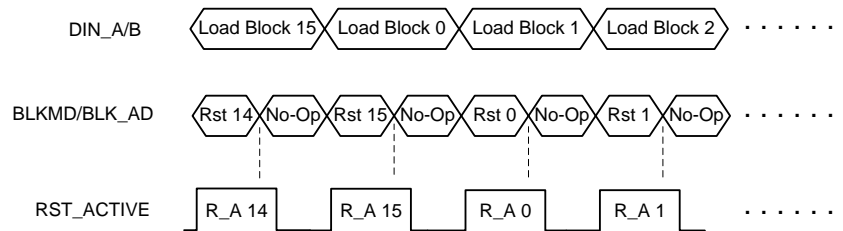

Figure 15. Single Block Phased Mode with Longer Block Load Times
Single Block Phased Mode is best described as "phasing" the data load operation with the Block Reset operation. The major advantages of Phased Modes (Single, Dual, and Quad) in general are the idea of not having to wait for the micromirror settling time duration to complete prior to the next block reset, and for not having to wait for the Reset Request to complete prior to loading more data. In the example of 图 15, Block 15 is loaded with data while the Reset operation is taking place for Block 14 (Rst 14). The Reset Request (BLKMD and BLK\_AD) for Block 14 needs to be one row cycle in duration minimum but can be extended to additional row cycles. Subsequent row cycles containing a valid Reset Request will be ignored until RST\_ACTIVE goes low. Therefore, BLKMD and BLK\_AD should transition from a Reset Request to a Block No-Op while RST\_ACTIVE is still asserted as once RST\_ACTIVE de-asserts there is the likelihood of an undesired Reset Request to be generated on the same block.
In 图 15, Block 0 is issued a Block Reset concurrently with data being loaded into the next block (1). The Row Cycles of the Block 1 data loading capture the Reset Request for Block 0, and provide continued Row Cycles for the duration of both the Block Load and the Block Reset. Note that the loading of block 1 does not need to wait for the mirror settling time of Block 0. This is repeated until the last block is Reset (which might also contain loading the next Block 0 data). Since the DLP650LNIR block load time is already longer than the RST\_ACTIVE time, full utilization of its bandwidth is readily achieved in a single block phased mode.